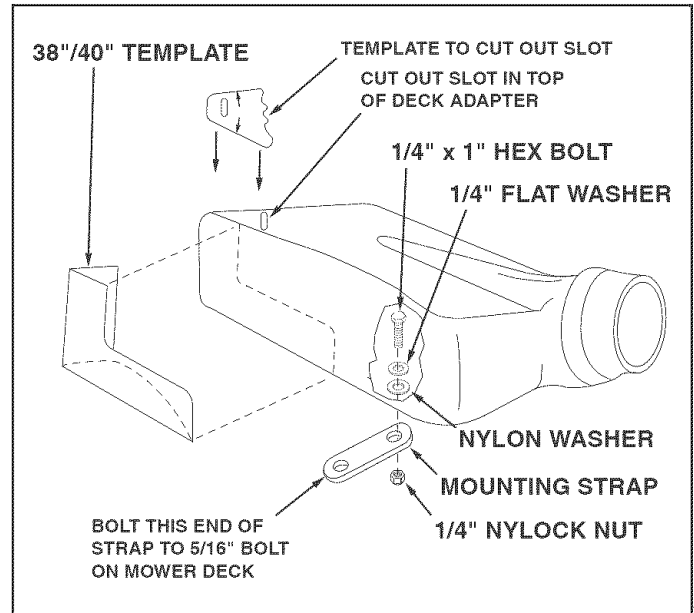

FIGURE 27
- Bolt end of mounting strap to the 5/16" bolt on the mower deck. The other end of the strap will bolt to a hole in the deck adapter, which must be drilled. Position the adapter on the deck, then drill a 5/16" hole in the bottom of the adapter that will align with the hole in the strap. Fasten the adapter to the strap using one 1/4" x 1" hex bolt, 1/4" flat washer, nylon washer and 1/4" nylock nut. See figure 27.